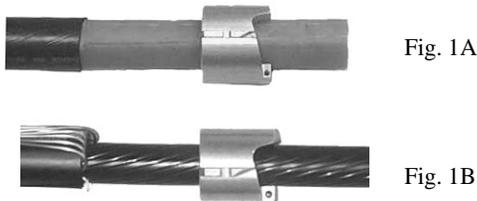

Fig. 1
**Step 1.** (Fig 1) Check the bushing by sliding it over polyethylene insulation (Fig 1A) or semi-con over EPR insulation (Fig. 1B). The bushing should fit snugly and still rotate easily on the cable. *We recommend the use of lubricant be used on the semi-con over EPR cable.*